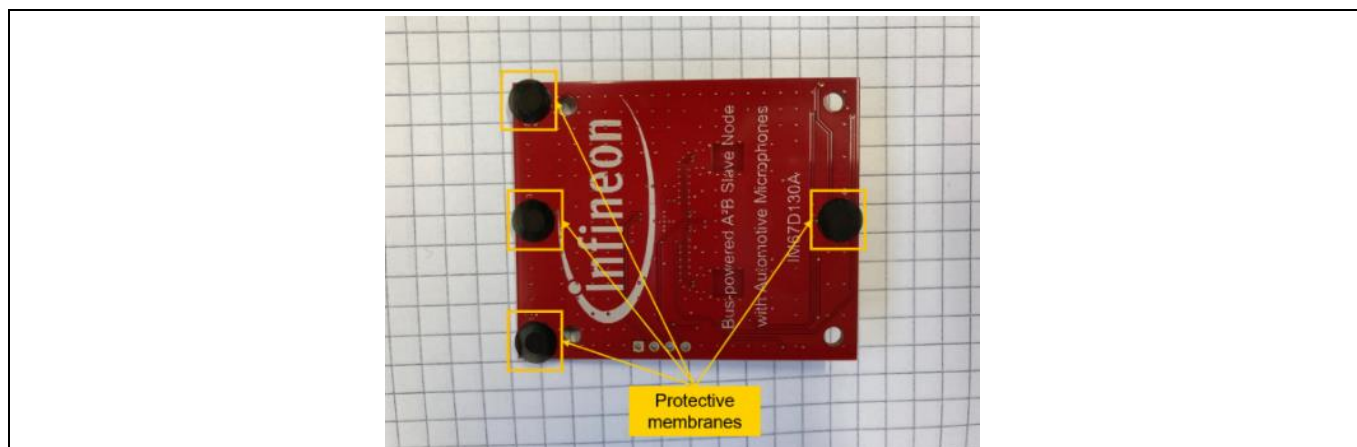

Figure 10 Protective membranes on the backside of the slave PCB
- Protective membranes under the sound port protects the MEMS microphone from dust and water. See also Figure 10.